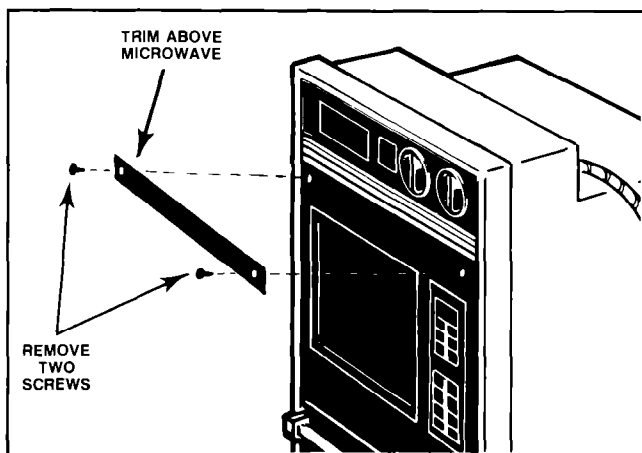

FIGURE 4
1. In order to gain access to the top mounting holes directly above the microwave oven, remove the two screws holding the top trim to the oven (see Figure 4). The side trim on each side of the microwave can now be removed.